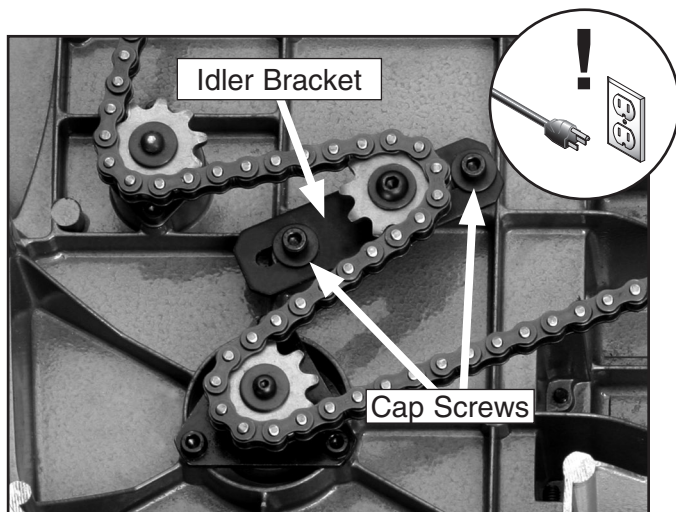

Figure 27. Underside of table.
4. Loosen, but do not remove, the two cap screws shown in **Figure 27** and slide the idler bracket so the chain loosens slightly.